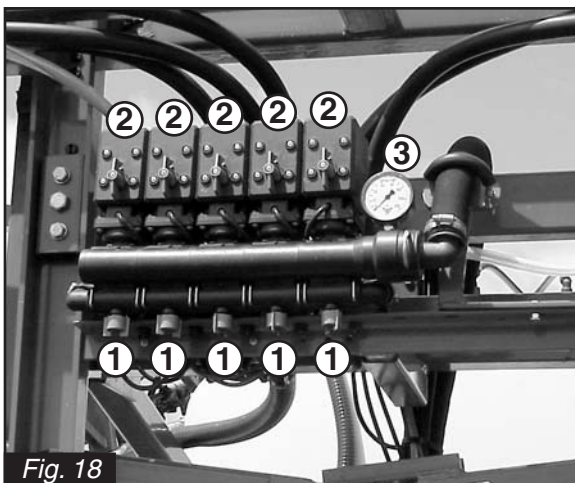

Fig. 18
2. Turn the adjusting screw (1 Fig 18) until the pressure gauge again shows the same pressure as in step 6 (above). (Turn the screw clockwise for higher pressure, counterclockwise for lower pressure).